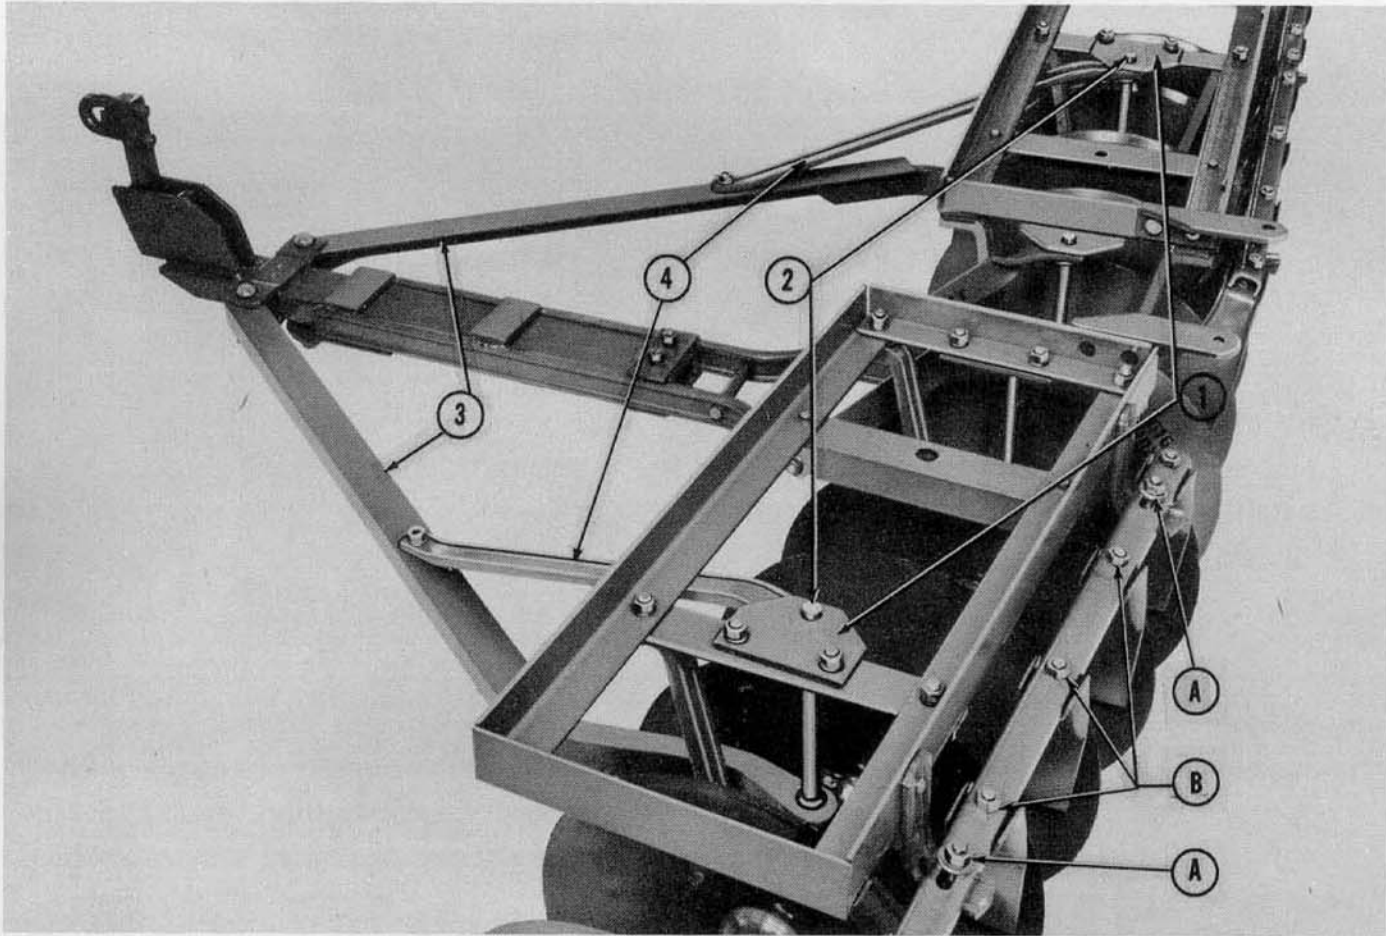

Figure 5
6. Remove outer draft pin plates (1), Figure 5, and draft pins (2) and align the rear holes of draft angles (3) with holes in bearing boxes.
7. Place large ends of draft pins (2) through the draft angle holes into bearing box holes as shown in Figure 5.
8. Place draft angle braces (4) over top end of draft pins and secure by bolting draft pin plates in place as shown in Figure 5.
Scraper Adjustment: The scrapers may be adjusted by gangs. For a gang adjustment, loosen the nuts (A) Figure 5, on the scraper rail and move the scraper assembly to desired position. To make individual scraper adjustments, loosen the nuts (B), Figure 5, and set each scraper as desired. Tighten nuts to hold setting.